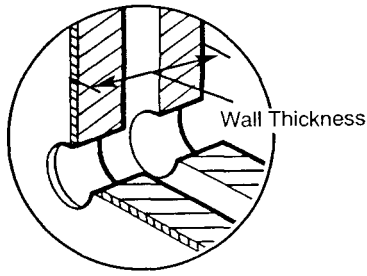

Fig. 62
3. Measure the wall thickness and from this dimension subtract 10mm (3/8 in) (Fig. 62).